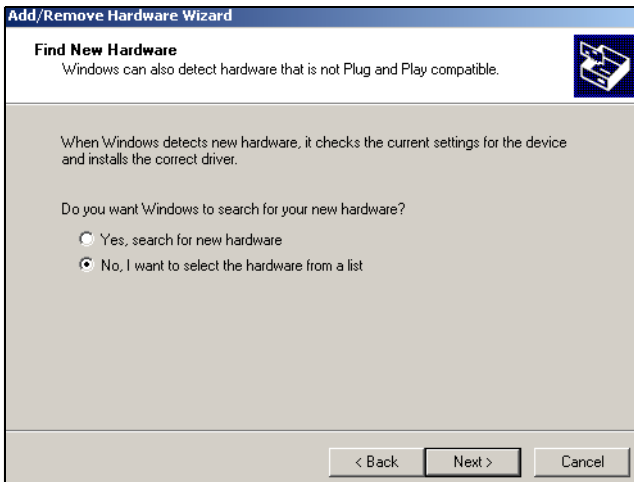

Figure 7-22 The Find New Hardware Window.
18. Select **No, I want to select the hardware from a list** and click **Next** (Figure 7-22).